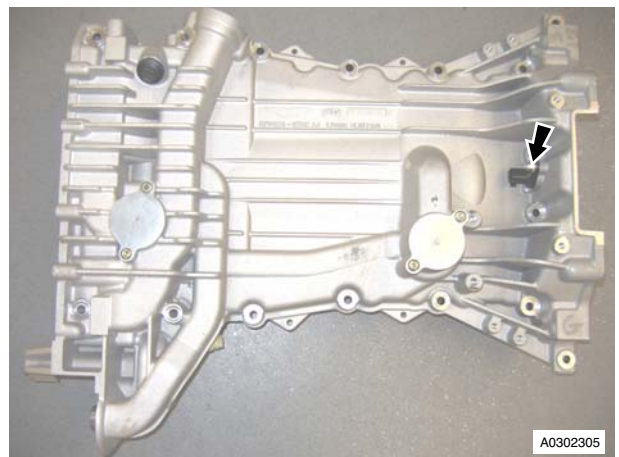

Figure 1
- Remove bolt that attach the crankshaft timing sensor, remove sensor (refer to Figure 1).